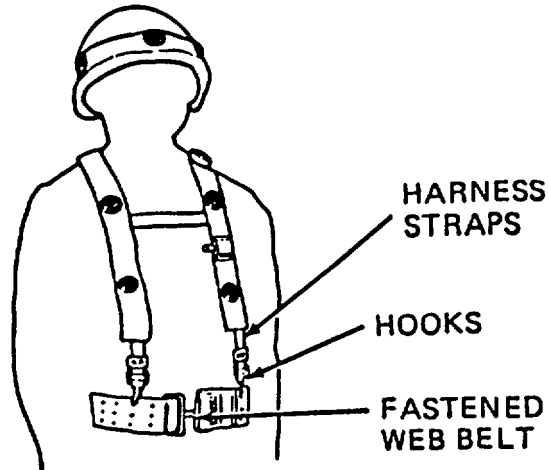

FIGURE 3-7. Torso Harness Attachment
- Secure the remaining two hooks as in Step 2, on the front of the harness to the belt (refer to Figure 3-7).